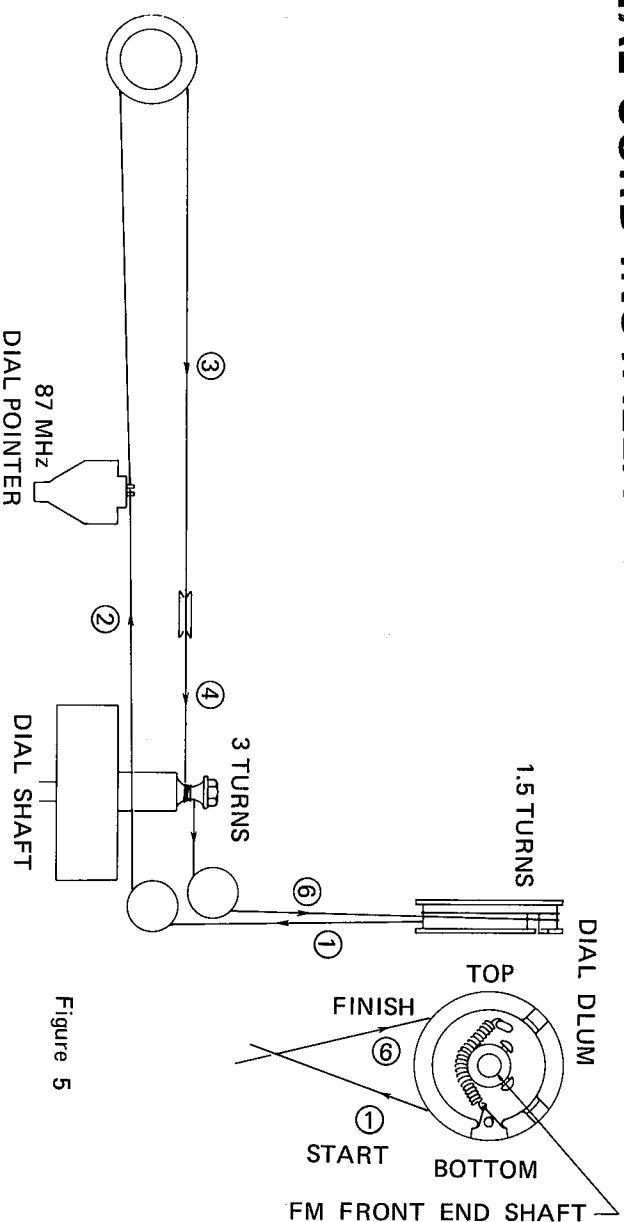

Figure 5
2. Turn the FM Front end shaft to the left until the rotor of the variable capacitor is completely out of the stator. Locate the pin on dial drum in line with the FM front end shaft on vertical as shown in Figure 5.